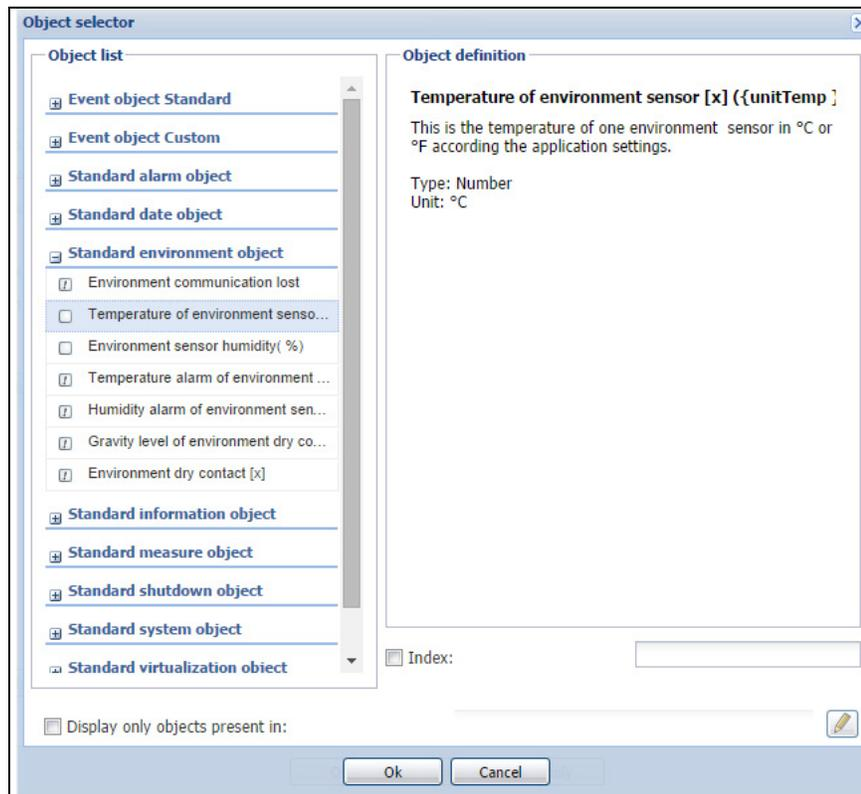
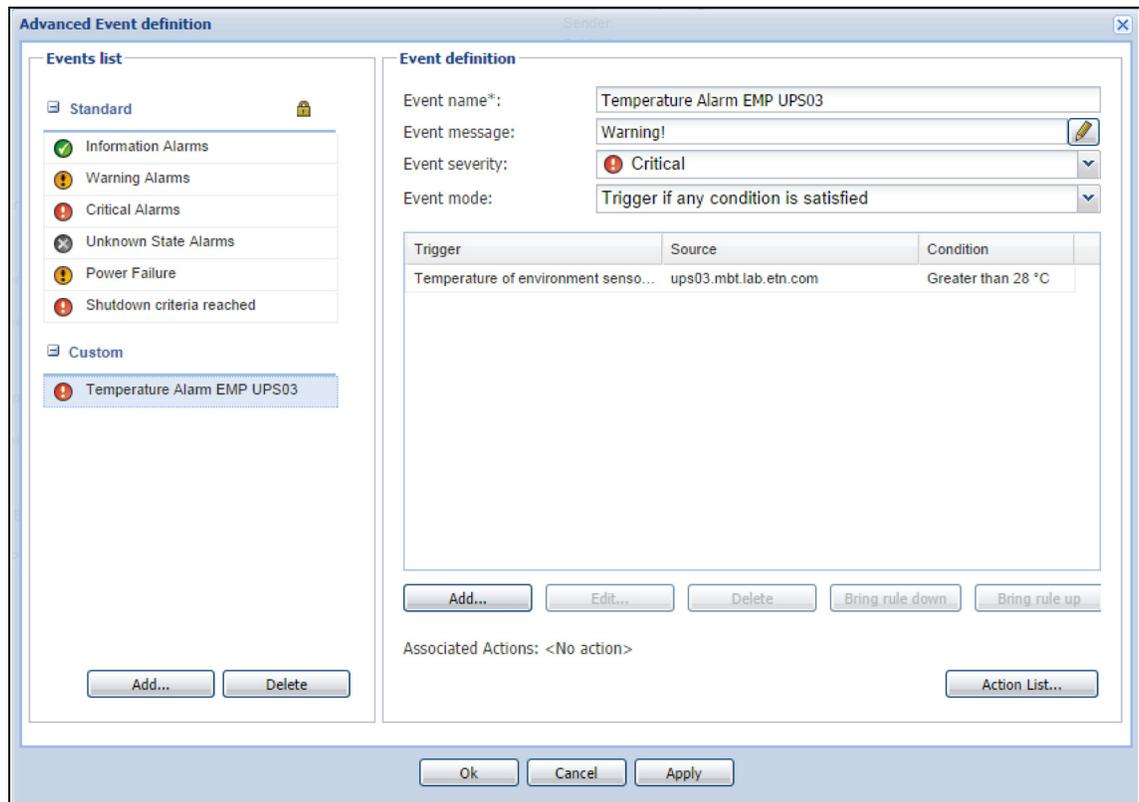

Figure 178. Object Selector
Figure 179. Advanced Event Definition
7. Select the value and click **Ok** (see Figure 178 and Figure 179).